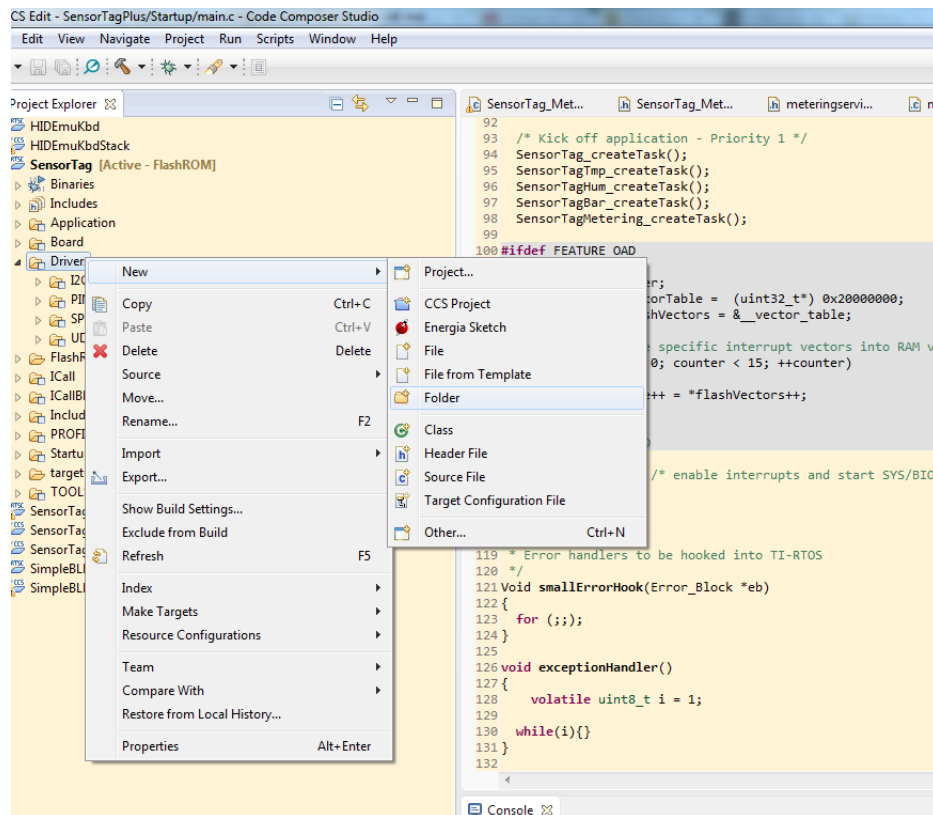

Figure 9. Create Virtual Folder 1: Right-Click Folder to Add—Select New→ Folder
7. Create a virtual folder in the project under *SensorTag*→ *Drivers* and name it "UART" (Figure 9)